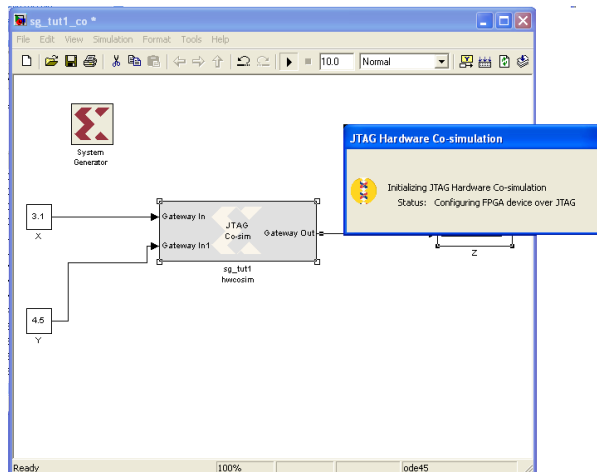

Figure 16: Starting HW/SW Co-Simulation
- Now the design is ready for Co-Simulation. Click the **Start Simulation** button in the model window toolbar to start the Co-Simulation. The System Generator will first download the bitstream associated with the block “**sg\_tut1\_hwcosim**” as shown in Figure 16.